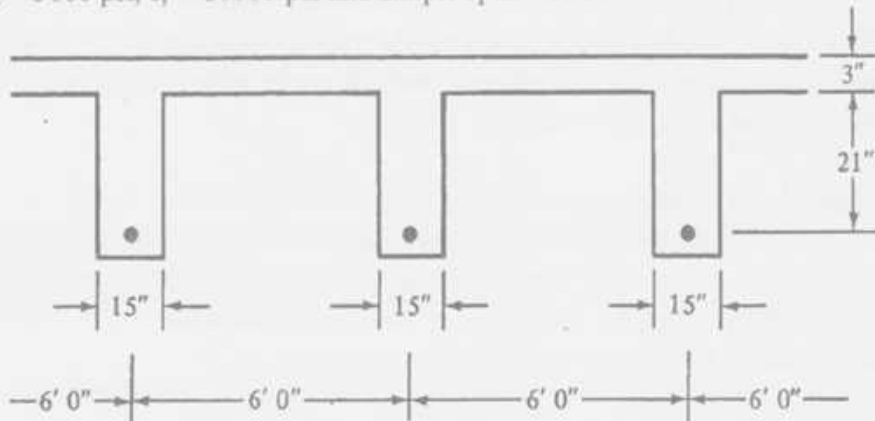

Figure-4
5. Design a T beam for the floor system shown in Figure-4. Given, $M_D = 200$ k-ft, $M_L = 425$ k-ft, $f'_c = 3000$ psi, $f_y = 60000$ psi and simple span = 18 ft. (20)